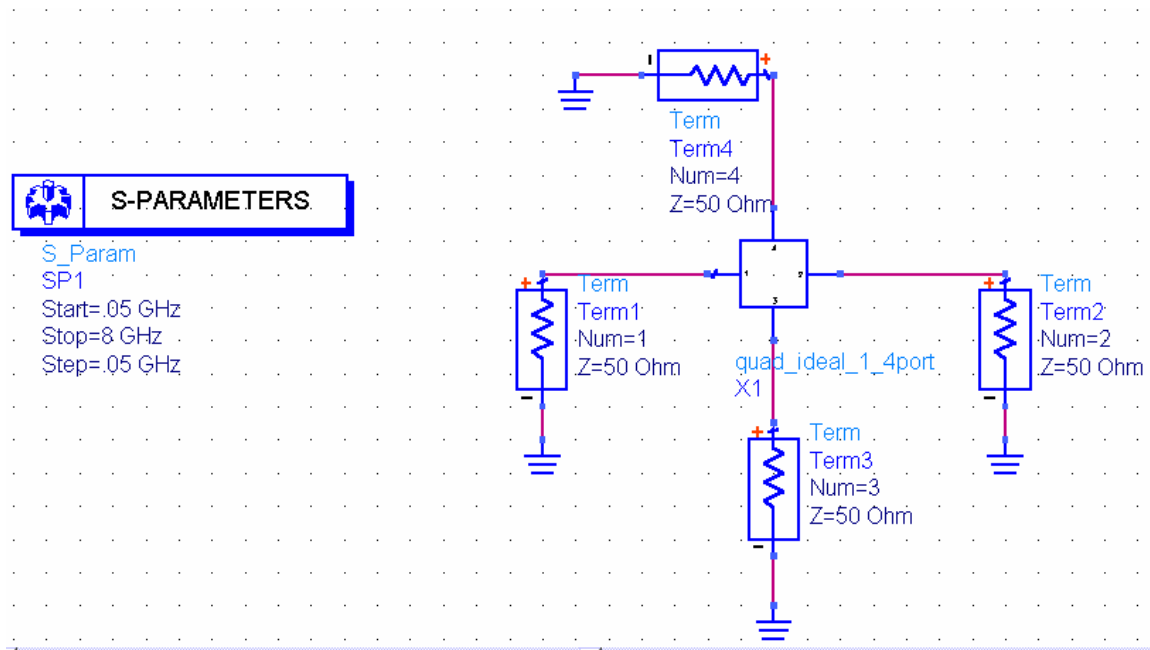

Figure 2. Higher-level schematic that references the ideal transmission line coupler schematic.
- a) Create a reference to the ideal transmission line coupler schematic (quad_ideal_1_4port) using the approach outlined in Procedure #2 (see Figure 2).
- g) Before continuing, return to the schematic window, delete the resistor and re-connect the Term4 element such that the schematic returns to the form shown in Figure 2. You